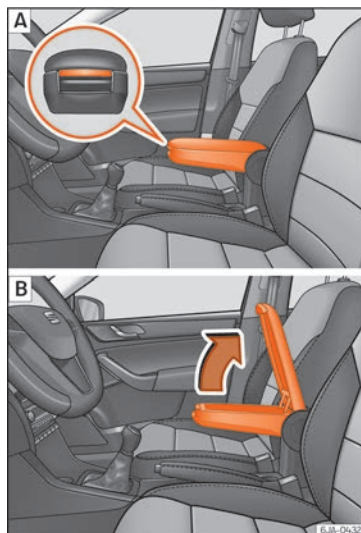

Fig. 144 Armrest/Opening and closing the storage compartment.
- Press the button located on the front of the armrest »» Fig. 144 - [A].
- Lift the storage compartment lid »» Fig. 144 - [B].